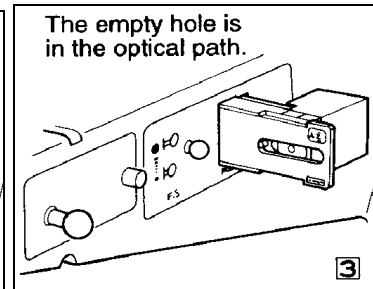

Figure 1-29
- To switch from sensitive polarization or differential interferometer microscopy to bright/dark-field microscopy, pull the polarizer slider (and therefore the first-order red compensator slider) out (rightward) to the first click position. (Figure 1-29 below)